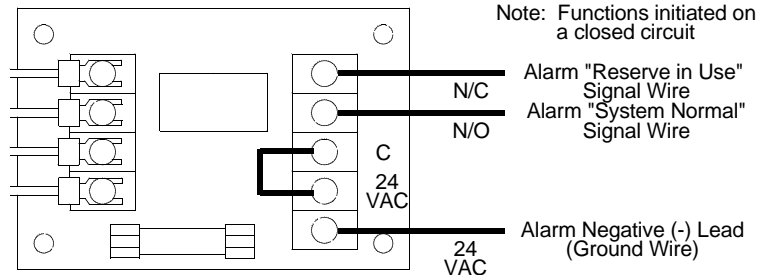

FIGURE 10
1. Connect the ground wire from the alarm to one 24 VAC terminal on the right side of the circuit board in the power supply box. (Figure 10)
2. A jumper wire is connected between the other 24 VAC terminal and the common (C) terminal.